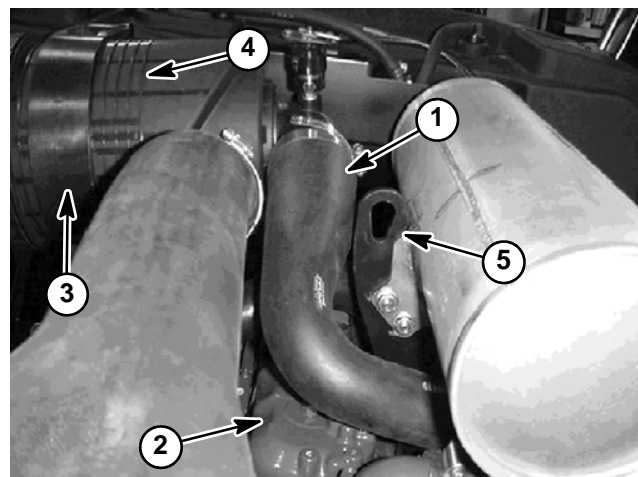

Figure 4
2. When installing air cleaner hose (item 24) between air cleaner and turbo-charger (Fig. 4):